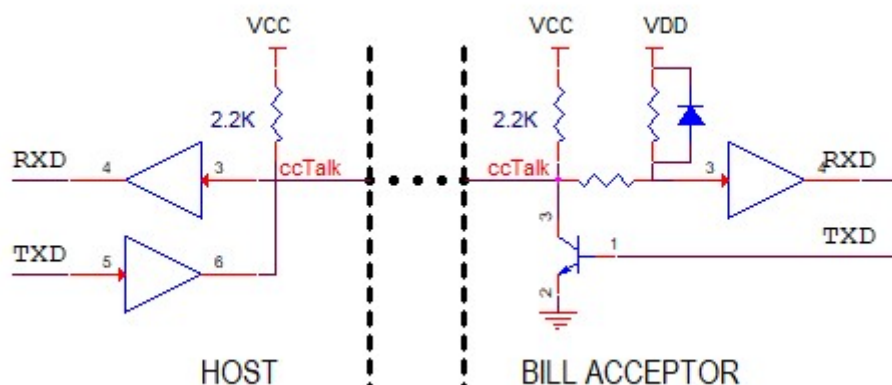

Figure 5
(3) ccTalk Interface, See figure 5